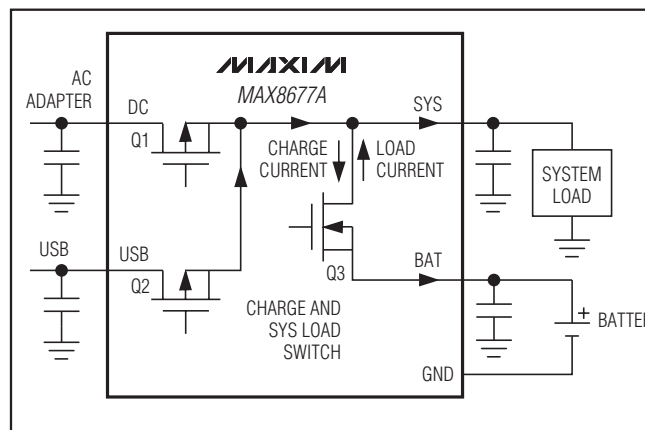

Figure 4. Smart Power Selector Block Diagram
The MAX8677A Smart Power Selector seamlessly distributes power between the external inputs, the battery, and the system load (Figure 4). The basic functions performed are:
An internal 40mΩ MOSFET connects SYS to BAT (Q3, Figure 4) when no voltage source is available at DC or USB. When an external source is detected at DC or USB, this switch is opened and SYS is powered from the valid input source through the input limiter.
The input voltage limiter is essentially an LDO regulator designed to run in dropout. While in dropout, the regulator dissipates a small I^2R loss through the 0.2Ω MOSFET (Q1, Figure 4) between DC and SYS. With an AC adapter or USB source connected, the input limiter distributes power from the external power source to the system load and battery charger. In addition to the input limiter's primary function of passing power to the system and charger loads at SYS, it performs several additional functions to optimize use of available power:
- **Input Voltage Limiting.** If an input voltage is above the overvoltage threshold (6.9V typ), the MAX8677A enters overvoltage lockout (OVLO). OVLO protects the MAX8677A and downstream circuitry from high-voltage stress up to 14V at DC and 8V at USB. In OVLO, VL remains on, the input switch that sees overvoltage (Q1, Q3, Figure 4) opens, and the appropriate power-monitor output ($\overline{DOK}$, $\overline{UOK}$) is high impedance, and $\overline{CHG}$ is high impedance.
If both DC and USB see overvoltage, both input switches (Q1 and Q2, Figure 4) open and the charger turns off. The BAT-SYS switch (Q3, Figure 4) closes, allowing the battery to power SYS.
An input is also invalid if it is less than BAT, or less than the DC undervoltage threshold of 3.5V (falling). With an invalid input voltage, SYS connects to BAT through a $40m\Omega$ switch (Q3, Figure 4).
- **Adaptive Battery Charging.** While the system is powered from DC, the charger draws power from SYS to charge the battery. If the charger load plus system load exceeds the input current limit, an adaptive charger control loop reduces charge current to prevent the SYS voltage from collapsing. Maintaining a higher SYS voltage improves efficiency and reduces power dissipation in the input limiter. The total current through the switch (Q1 or Q2 in Figure 4) is the sum of the load current at SYS and the battery charging current. The limiter clamps at 5.3V, so input voltages greater than 5.3V can increase power dissipation in the limiter. The limiter power loss is $(V_{\text{DC}} - 5.3) \times I$, but not less than $I^2 \times 0.2\Omega$. Also note that the MAX8677A turns off any input that exceeds 6.9V (nominal).